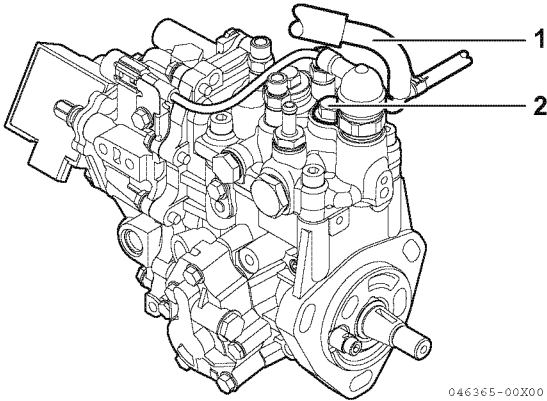

Figure 7-32
2. Clamp shut the fuel injection pump fuel return hose leading to fuel filter (1, **Figure 7-32**).
3. Remove the forward fuel injection pump plunger plug (2, **Figure 7-32**) on the top of the fuel injection pump.